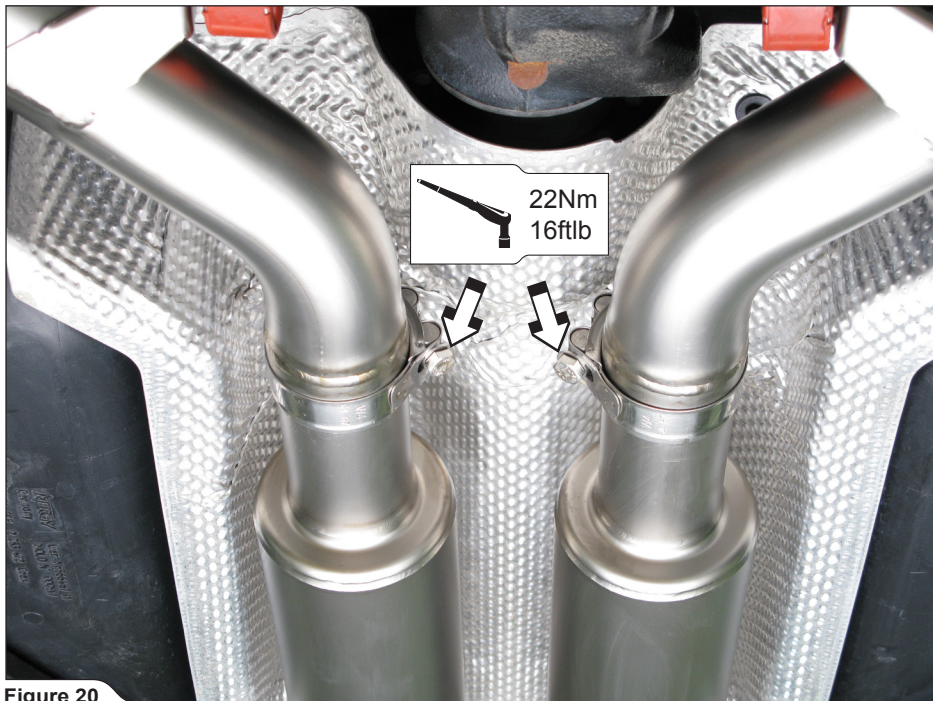

Figure 20
10. Tighten the metal clamps on middle pipes-muffler pipes connections to a specified torque (Figure 20).